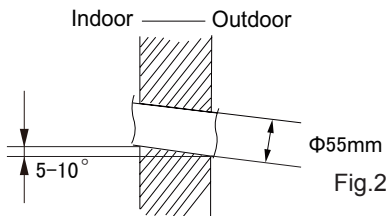

Fig.2
(2) Open a piping hole with the diameter of  $\Phi 55\text{mm}$  on the selected outlet pipe position. In order to drain smoothly, slant the piping hole on the wall slightly downward to the outdoor side with the gradient of  $5\sim 10^\circ$ .(As show in Fig.2)